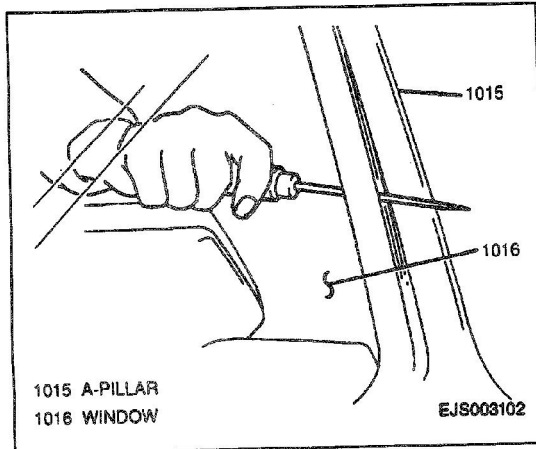

Figure 4—Opening Adhesive for Piano Wire
9. Punch hole through adhesive with eyeleteer (Figure 4) and slip piano wire through hole.
- 9. Punch hole through adhesive with eyeleteer (Figure 4) and slip piano wire through hole.